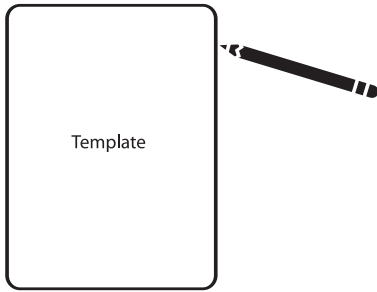

Figure 1
3. With these measurement requirements in mind, place the template against the inside edge of one of the studs. (Do not "center" the template if your studs are wider than $14\frac{1}{2}$ "– $15\frac{1}{2}$ ".) Use a level to make certain the template is straight and plumb. The outside edge of the template will be your exact cutout size. [Figure 1]